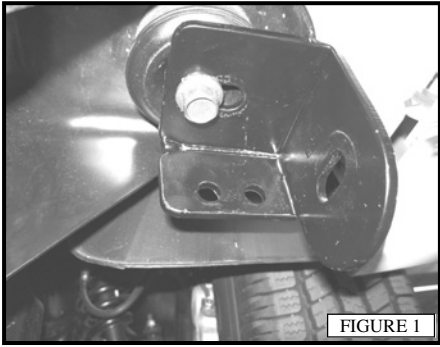

FIGURE 1
2. Starting at the passenger side. Remove the vehicle body mount bolt located behind the front tire underneath the vehicle floor. Install the passenger side front mounting bracket to the body mount and secure it with the factory bolt. The surface with the two holes will face the front of the vehicle. Do not fully tighten at this time. (FIGURE 1)